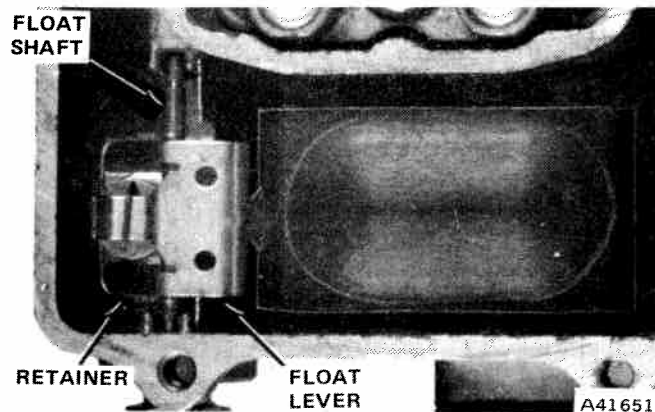

Fig. 4-42 Float Assembly
- (9) Remove choke housing assembly retaining screws, housing assembly, gasket, and fast idle cam and rod from fast idle cam lever.
- (10) Remove thermostat lever retaining screw and washer. Disconnect choke control rod from fast idle lever. Remove fast idle lever and fast idle cam lever from the choke housing.
- (11) Pry float shaft retainer from fuel inlet seat (fig. 4-42). Remove float, float shaft retainer, and fuel inlet needle assembly. Remove retainer and float shaft from float lever.